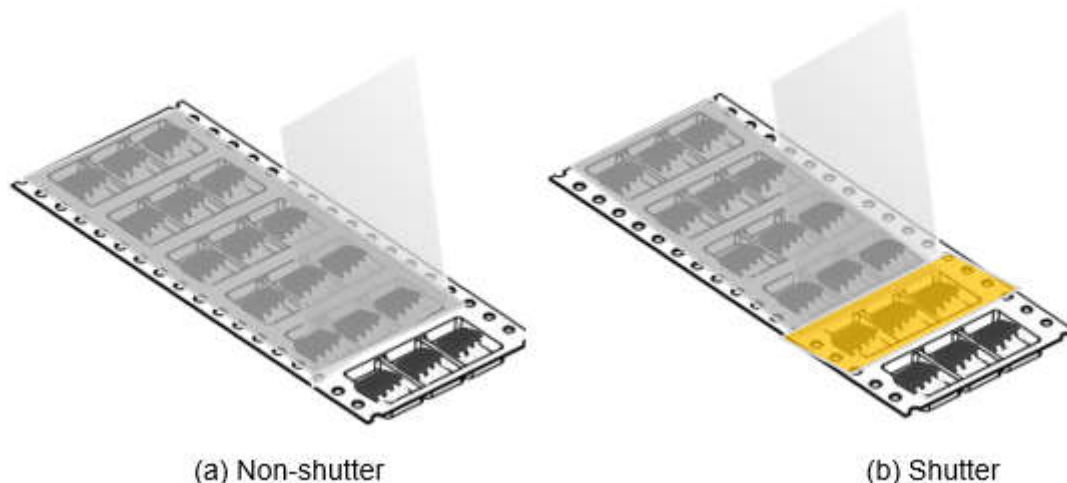

Figure 8-1. Non-Shutter (a) and Shutter Options are all Compatible With Multi-Row Tape and Reel (b)
4. **Index pitch setup:** Set the index pitch according to the recommended value per Table 6-1. For example, an 8mm pitch is recommended for SOIC 8D, as illustrated in Figure 8-1. In this setup, the carrier tape is indexed by one column pitch, and the cover tape is peeled off accordingly to expose only one index of units. Most SMT equipment offers Non-shutter and shutter options, both of which are compatible with multi-row tape and reel, providing flexibility in your setup.
5. **Setting up the pick-up location:** Determine the IC center location using the values listed in Table 6-1, which includes vertical pitch (F1, F2, F3) and horizontal pitch (P) information.